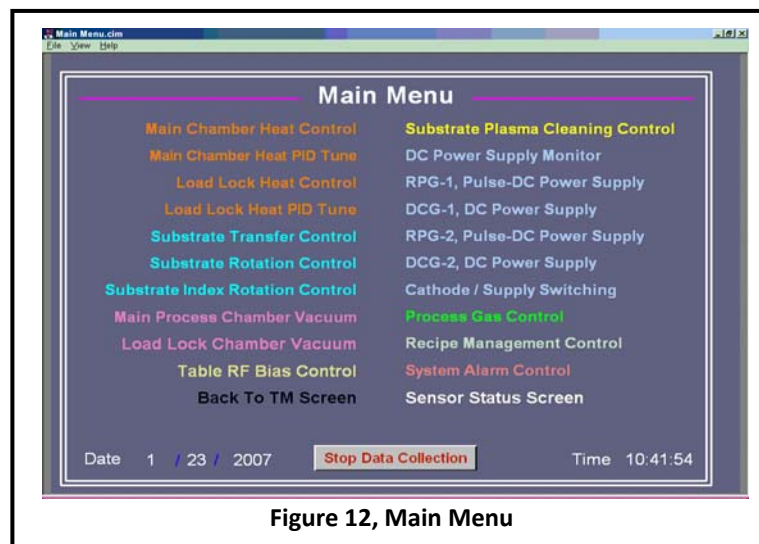

Figure 12, Main Menu
- 9.4 Click “Substrate Transfer Control”. See *Figure 12, Main Menu*.
10.4 From the Main Menu on the computer click “Substrate Index Rotation Control”. See *Figure 12, Main Menu*.